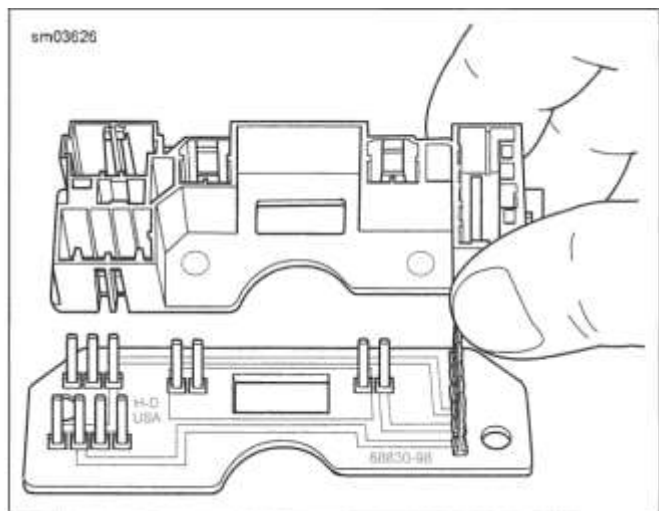

Figure 8-70. Place Pin Housing Over Circuit Board
3. See Figure 8-70. Install pin housing/circuit board with screw. Tighten.